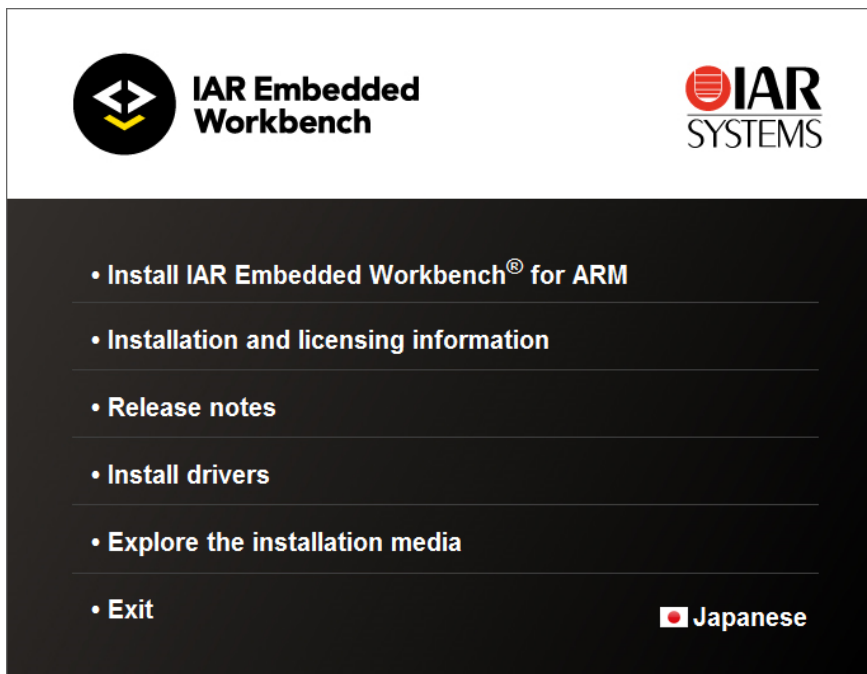

Figure 3.1.1.1 Installation Screen of IAR Embedded Workbench for ARM
- (1) Download the installer of IAR Embedded Workbench for ARM from the web site of IAR Systems.
- (2) Finish all the application on the Windows.
- (3) Double click the installer(exe file) to launch it. Then the installation screen shown below will be displayed. (Figure 3.1.1.1)
- (4) Click [Install IAR Embedded Workbench®] to start the installation wizard. (Figure 3.1.1.1)